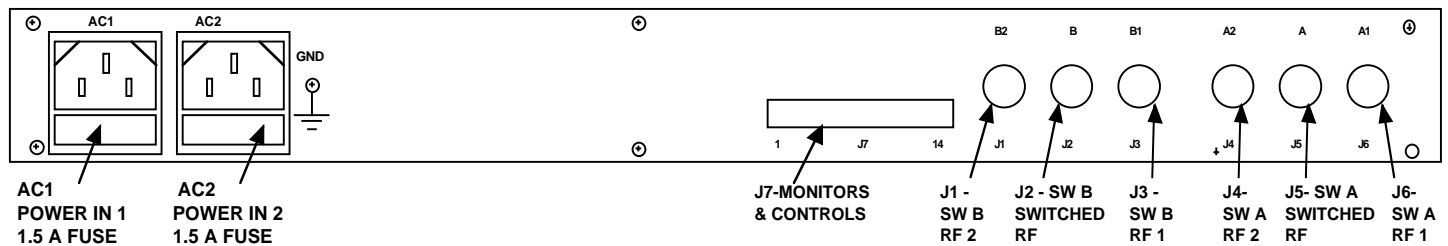

FIGURE 2.0 1582-70L REAR PANEL
TABLE 2.0 INPUT / OUTPUT CONNECTORS (FIGURE 2.0)
J1, J2, J3, J4, J5, J6 - RF CONNECTORS (FIGURE 2.0)
J7 - MONITORS AND CONTROLS CONNECTOR (FIGURE 2.0)
- d. Connect to signals on the MONITORS AND CONTROLS connector, J7, as desired (see Figure 2.0, Table 2.0)
- h. Check that Ch 1 and Ch 2 are selected when in AUTO and momentary ground is applied to J7 pins (1) and (2) Momentarily ground remote Reset pin 4 on J7 if in LATCH mode to return to AUTO operation.